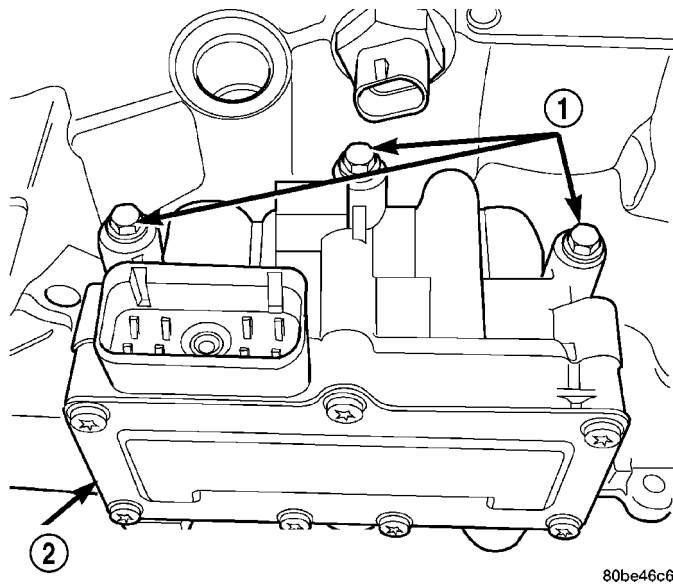

Fig. 307 Solenoid/Pressure Switch Assembly-to-Case Bolts
(6) Remove three (3) solenoid/pressure switch assembly-to-transaxle case bolts (Fig. 307).
(2) Install and torque three (3) bolts (Fig. 307) to 13 N·m (110 in. lbs.).